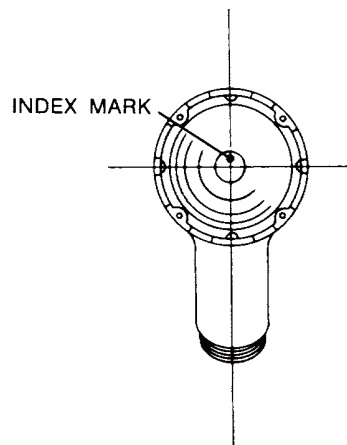

FIGURE 5
a. Fit the purge bar on the cover (26) for the second stage. Make sure that the spring is not damaged.
b. Position the diaphragm (25) with the diaphragm wear plate facing downward and the hole positioned as illustrated in figure 5.